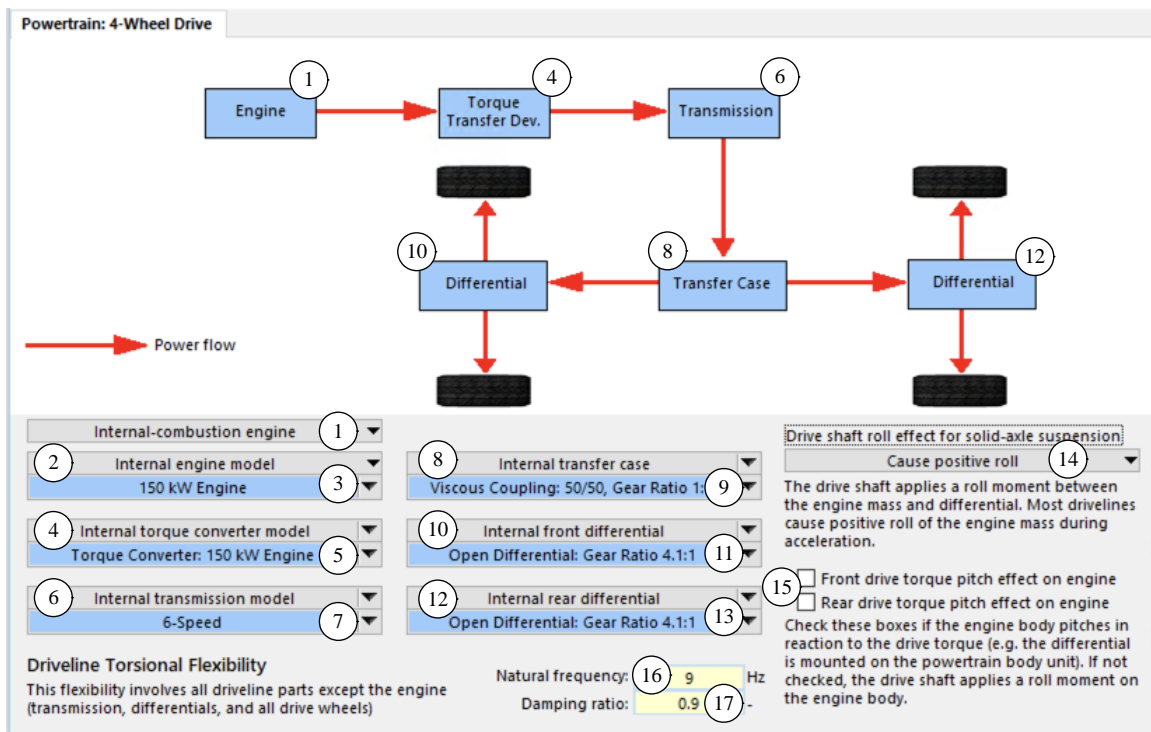
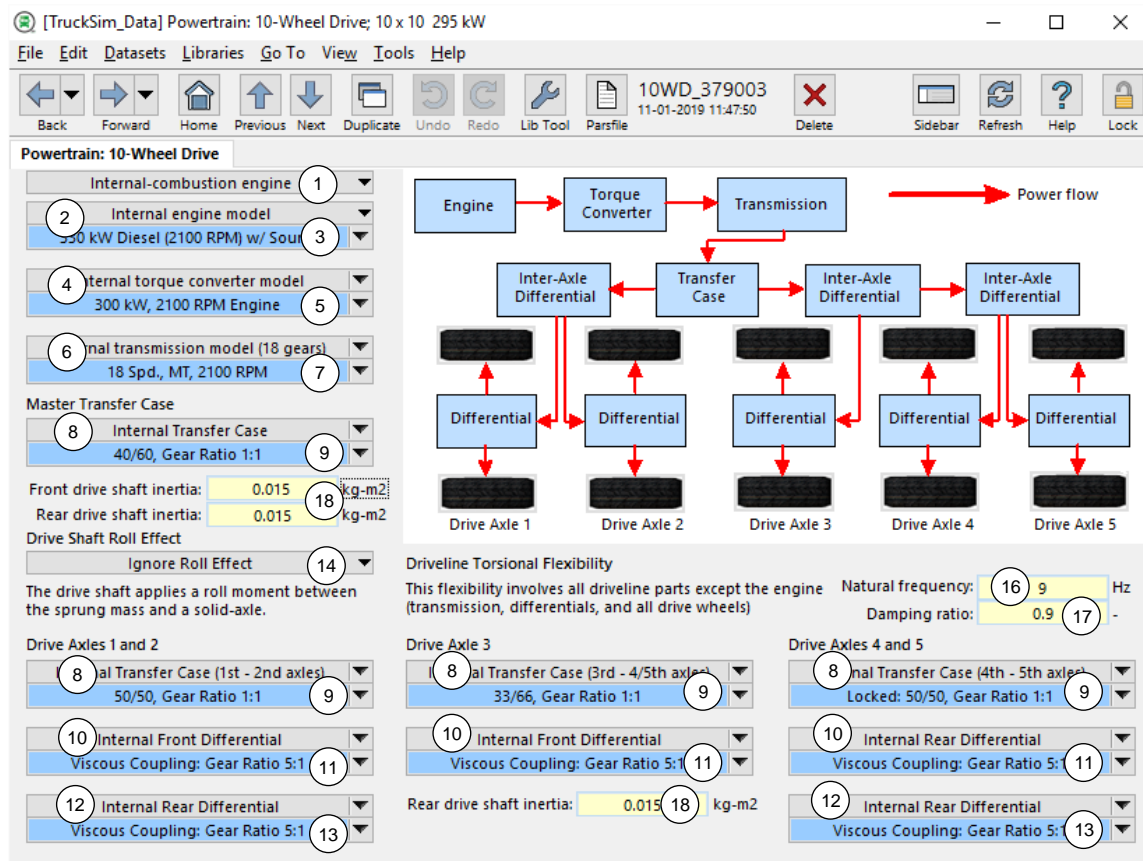

Figure 15. Powertrain assemble screen for four-wheel drive system.
Figure 19. Powertrain assembly screen for a 10-wheel drive system.
Figure 15 (page 10) shows the screen that assembles the information needed to define a four-wheel drive powertrain – power source (1), torque converter (or clutch) (4), transmission (6), transfer case (8), and differentials ((10) and (12)). Each part can be switched between the internal model and an external model by using a drop-down list (e.g., the drop-down list of internal-combustion engine model options, Figure 12).
Figure 15 shows the controls on a four-wheel drive powertrain screen. The numbered controls are described below.
In TruckSim, the VS powertrain model supports up to a 10-wheel drive. Figure 19 shows the screen that assembles the information needed to define a 10-wheel drive powertrain. The multi-axle screen has the same items as the assembly screen for a 4-wheel drive system (Figure 15), but they differ